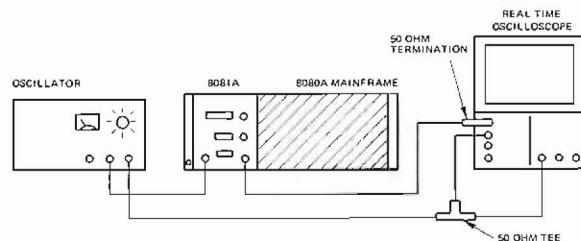

Figure 4-4. External Gate Mode (Slow) Test Setup
- Set up the equipment as shown in figure 4-4 and set the controls as follows: